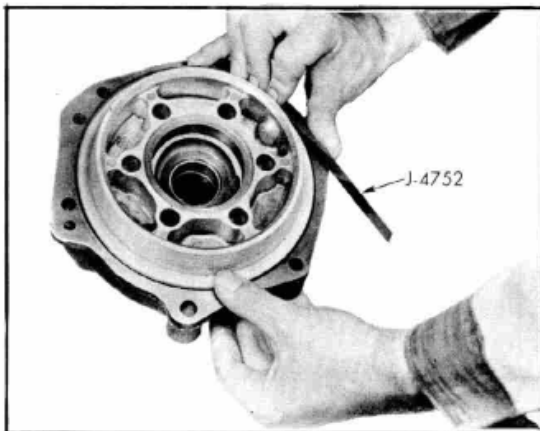

Figure 32
13. Install Positioning Tool J-4752 in the rear bearing retainer between the piston outer seal and the inner surface of the bearing retainer. DO NOT permit tool to slip below ledge on inner surface of the bearing retainer. Firmly seat the feeler stock against the ledge in the rear bearing retainer, Figure 32. Hold ends of installing blade to keep blade from snapping up.